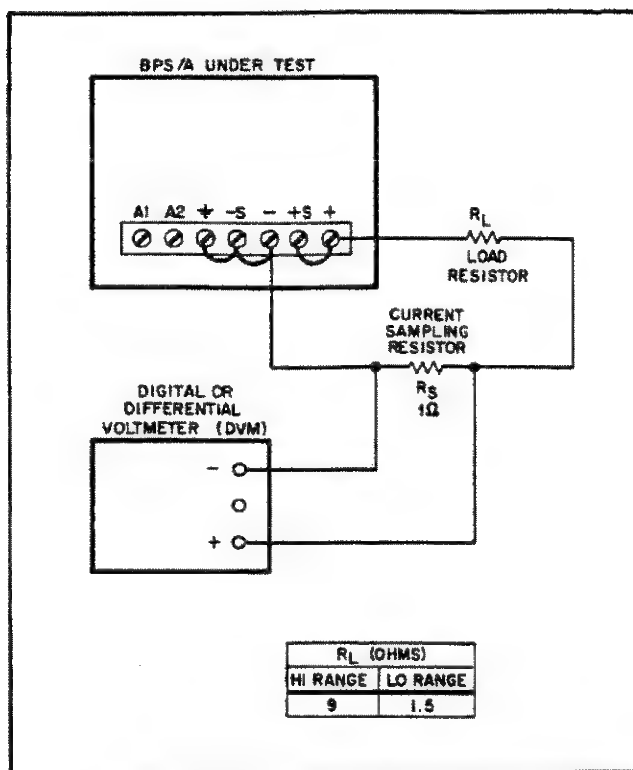

Figure 5-10. Constant Current, Test Setup
- Connect test setup shown in Figure 5-10. Use high range load resistor (R_L) connected in series with the 1Ω resistor (R_S).